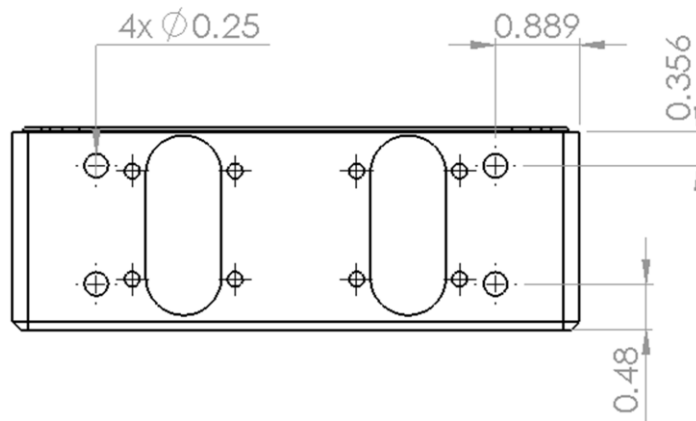

Fig. 5: Locations of U-bolts
- 11) Locate the U-bolt mounting holes, detailed in Fig. 5.